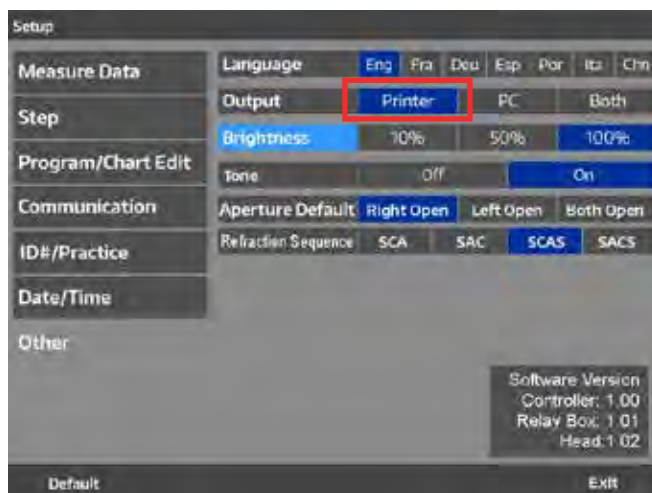

Figure IU-31 Printer Settings
1. To enable the built-in printer Select **PRINTER** from the **SETUP OTHER** section. Refer to Figure IU-31.